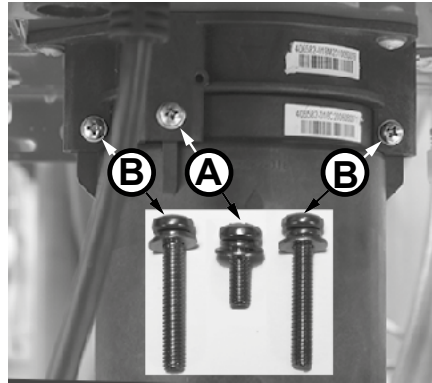

Figure 1 - Identify cartridge screws
6 Locate the three (3) screws securing the X3®/Bypass cartridge as shown in Figure 1. Remove the **(A)** M4-12mm screw and the two **(B)** M4-25mm screws from cartridge. Place screws aside in a safe place for reinstallation.